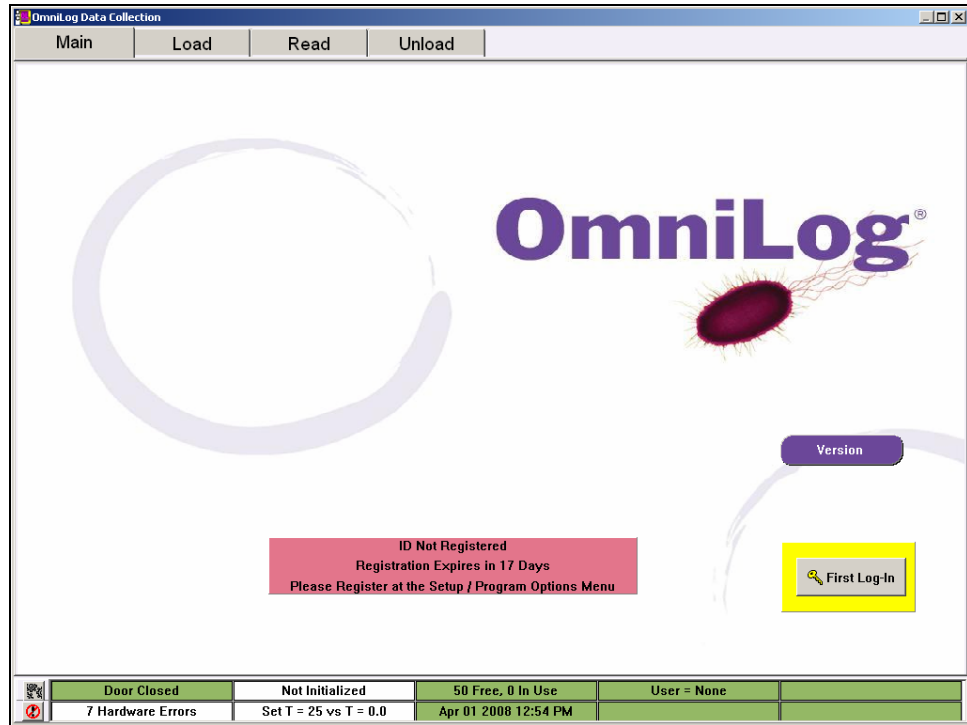

Figure 8 Main Window on first start up
2. The **Main** screen will appear. Click the **First Log-In** key button (Figure 8).